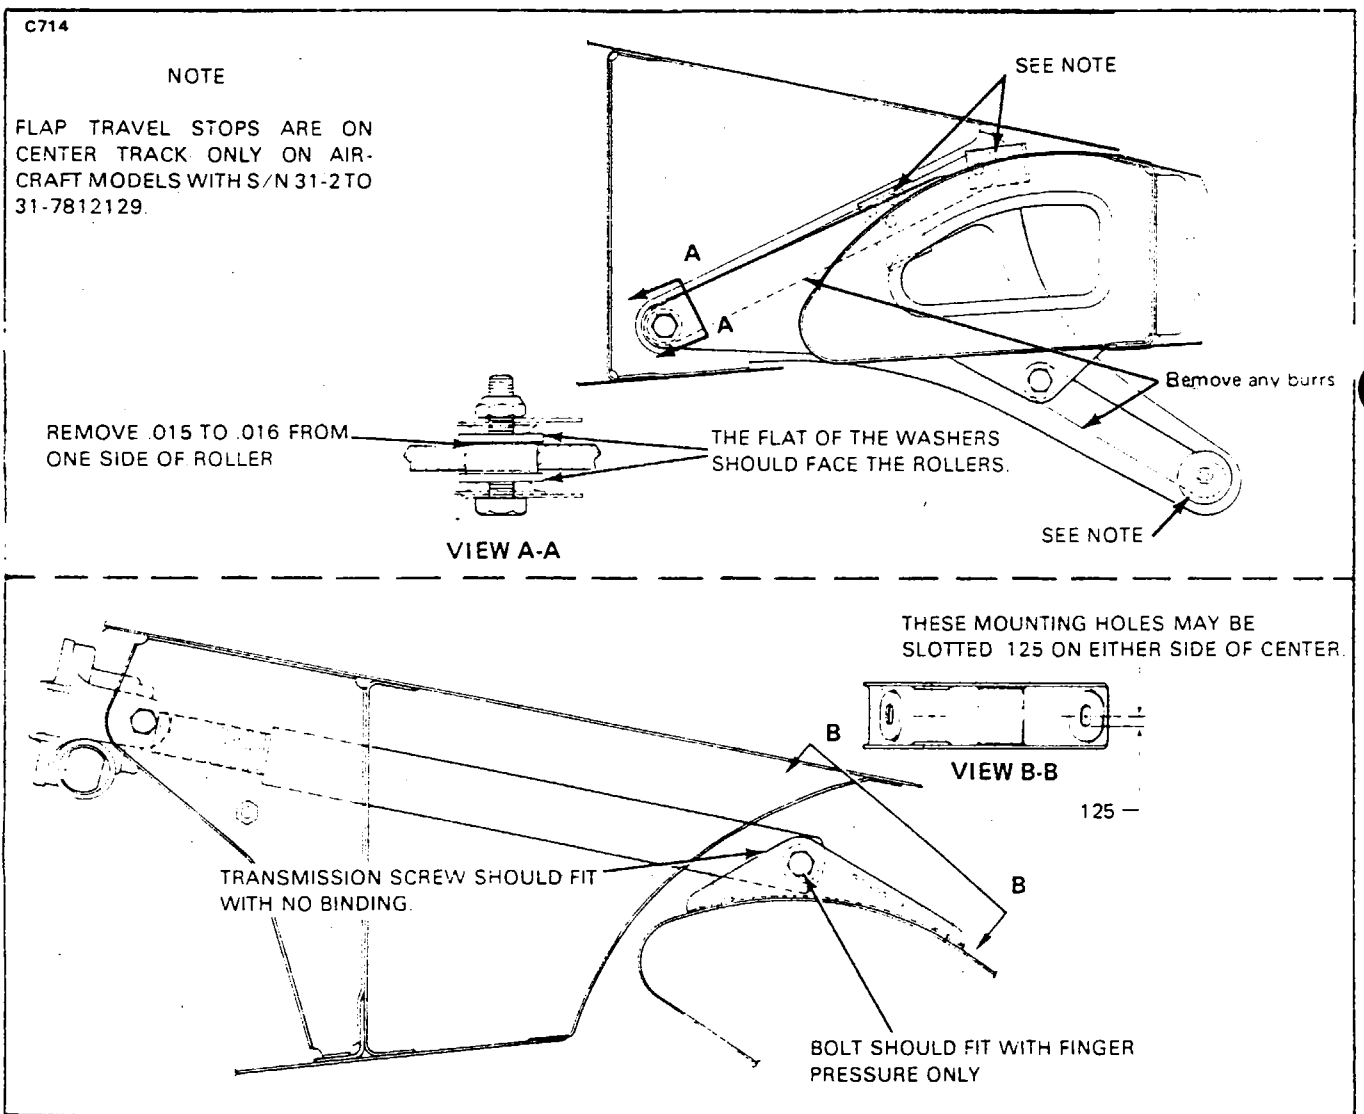

Figure 3-3. Friction Reduction in Wing Flap System
3-10. REDUCTION OF FRICTION IN WING FLAP SYSTEM. (Dukes System) (Refer to Figure 3-3.) To insure proper flap system operation and reduce friction on the flap motor, the following inspection and repairs are only required should operational problems exist in the flap system:
c. Inspect the flap tracks for any burrs along the track edges. If any are found, remove them with a fine file. Insure that no noticeable depressions are evident at the ends of the track areas. (Refer to Figure 3-3 for specific locations.)
f. On each flap roller, remove .015 or .016 of an inch from one side of each roller (Refer to Figure 3-3, View A-A.)
h. Insure that the washers, used on both sides of the rollers are flat. (Refer to Figure 3-3, View A-A.)
It may be necessary to move the horn assembly to obtain this no binding fit. The mounting holes on the horn assembly may be slotted to gain some adjustment if needed. (Refer to Figure 3-3, View B-B for dimensions of slots.)
- l. Ascertain that the transmission bolt at the flap end fits into the screw end horn assembly with finger pressure only. (Refer to Figure 3-3.)